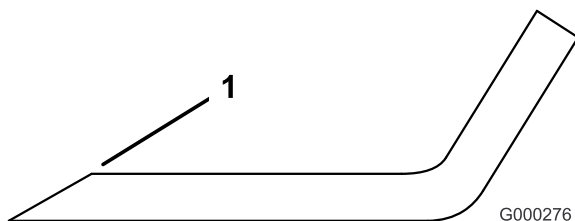

Figure 101
3. Examine the cutting edges of all of the blades. Sharpen the cutting edges if they are dull or nicked. Sharpen only the top of the cutting edge and maintain the original cutting angle to make sure of sharpness (Figure 101). The blade will remain balanced if the same amount of metal is removed from both cutting edges.
If the blade is allowed to wear, a slot will form between the sail and flat part of the blade (Figure 101). Eventually a piece of the blade may break off and be thrown from under the housing, possibly resulting in serious injury to you or bystanders.